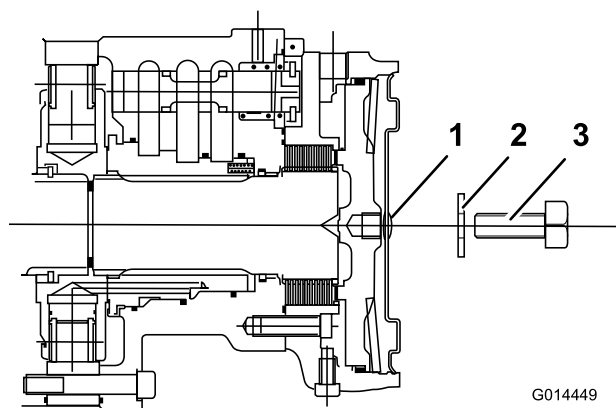

Figure 52
4. Install a M12 x 40 mm long setscrew with washer into the hole in the center of the motor end plate (Figure 52).
5. Tighten the setscrew into the threaded hole in the brake piston until the brake is released (Figure 52).
6. Identify the left front wheel motor disc brake assembly and repeat the previous procedure (Figure 52).